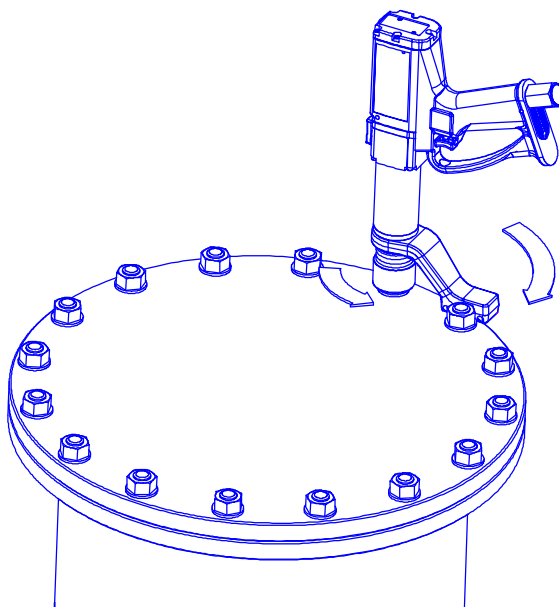

Figure 8
3. Rotate the handle into a convenient position relative to the reaction arm. Fit the tool onto the fastener to be released with the reaction arm adjacent to the reaction point. See Figure 8.